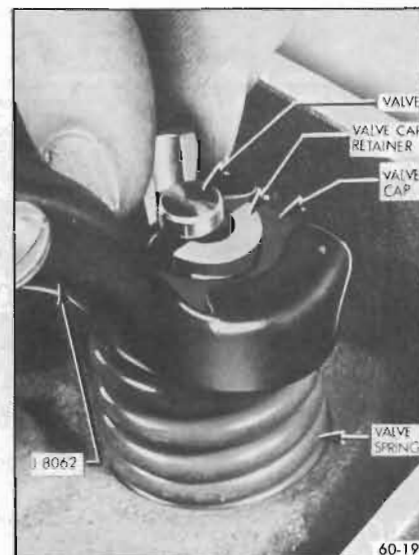

Figure 60-19—Removing Valve Cap Retainers
2. Using a suitable spring compressor, such as J-8062, compress valve spring and remove cap retainers. Release tool and remove spring and cap. See Figure 60-19. Valve cap retainers are copper colored for identification purposes only.